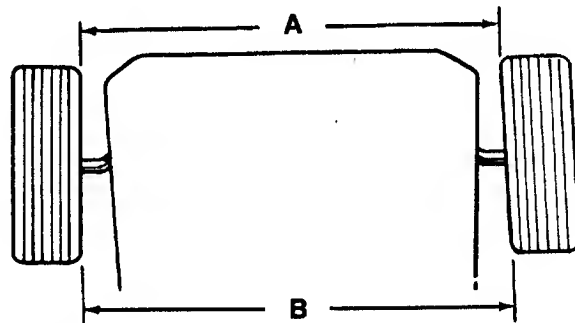

FIGURE 23.
2. Adjust the tie rod in or out until the wheels toe-in approximately $\frac{1}{8}$ " (Dimension "A" should be approximately $\frac{1}{8}$ " less than dimension "B"). See figure 23.
BLADE BRAKE ADJUSTMENT (See Figure 23)